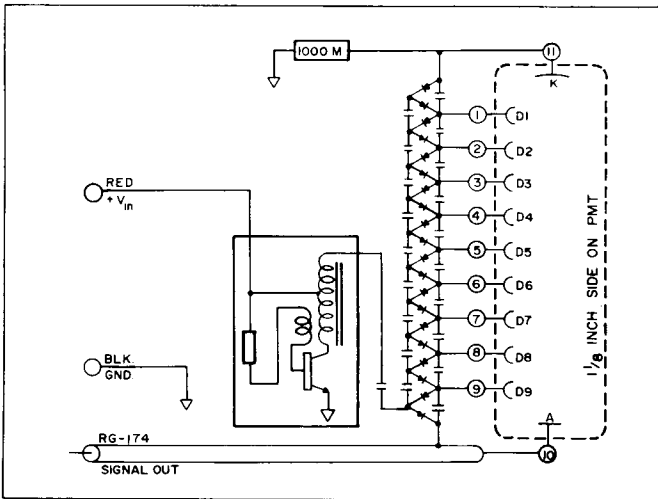

Figure 1. HC122-01 schematic diagram
**CIRCUIT DESCRIPTION:** A self-oscillating circuit is used to convert DC power to a 185 kHz sine wave of 100 volts peak-to-peak. As shown in Figure 1, this voltage is applied